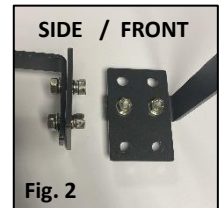

Fig. 2
2. Attach the support plate to the L-brackets using the 4 x socket bolts, lock washers, washer and nuts provided (see fig. 2). It is recommended that the bolts attaching the plate to the light pass through the centre support holes to even weight proportion.